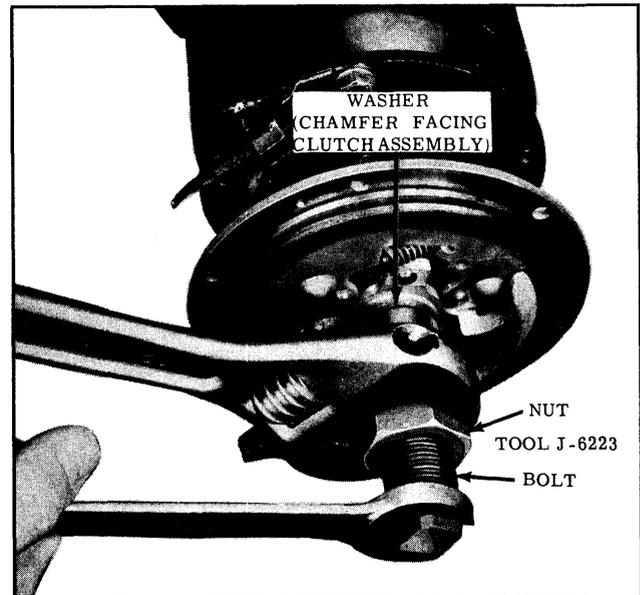

Fig. 14-25 Installing Clutch
bolt, turn the nut counterclockwise until the clutch assembly seats against the spacer and shims. (See Fig. 14-25) Remove the tool and washer.
7. Place the clutch ring over the inner clutch plate, and install the clutch assembly on compressor shaft. (See Fig. 14-25)